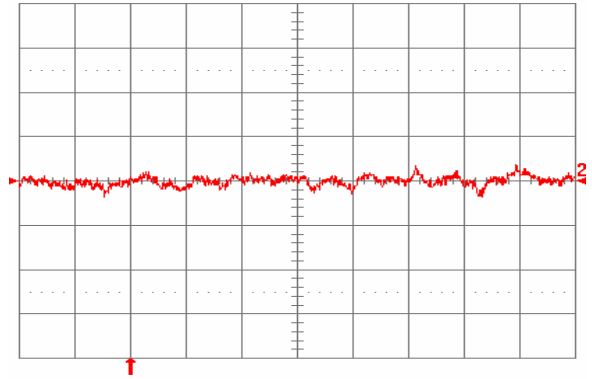

**Fig. 2.0V.14:** Test Setup for measuring input reflected ripple currents,  $i_c$  and  $i_s$ .
**Fig. 2.0V.1:** Available load current vs. ambient air temperature and airflow rates for SQ48T15020 converter with D height pins mounted vertically with  $V_{in} = 48\text{ V}$ , air flowing from pin 3 to pin 1, and maximum FET temperature  $\leq 120\text{ }^\circ\text{C}$ .
**Fig. 2.0V.2:** Available load current vs. ambient air temperature and airflow rates for SQ48T15020 converter with D height pins mounted horizontally with  $V_{in} = 48\text{ V}$ , air flowing from pin 3 to pin 1, and maximum FET temperature  $\leq 120\text{ }^\circ\text{C}$ .
**Fig. 2.0V.3:** Available load current vs. ambient air temperature and airflow rates for SQ48S15020 converter mounted vertically with  $V_{in} = 48\text{ V}$ , air flowing from pin 3 to pin 1, and maximum FET temperature  $\leq 120\text{ }^{\circ}\text{C}$ .
**Fig. 2.0V.4:** Available load current vs. ambient air temperature and airflow rates for SQ48S15020 converter mounted horizontally with  $V_{in} = 48\text{ V}$ , air flowing from pin 3 to pin 1, and maximum FET temperature  $\leq 120\text{ }^{\circ}\text{C}$ .
**Fig. 2.0V.5:** Efficiency vs. load current and input voltage for SQ48T/S15020 converter mounted vertically with air flowing from pin 3 to pin 1 at a rate of 300 LFM (1.5 m/s) and  $T_a = 25\text{ }^{\circ}\text{C}$ .
**Fig. 2.0V.6:** Efficiency vs. load current and ambient temperature for SQ48T/S15020 converter mounted vertically with  $V_{in} = 48\text{ V}$  and air flowing from pin 3 to pin 1 at a rate of 200 LFM (1.0 m/s).
**Fig. 2.0V.7:** Power dissipation vs. load current and input voltage for SQ48T/S15020 converter mounted vertically with air flowing from pin 3 to pin 1 at a rate of 300 LFM (1.5 m/s) and  $T_a = 25\text{ }^\circ\text{C}$ .
**Fig. 2.0V.8:** Power dissipation vs. load current and ambient temperature for SQ48T/S15020 converter mounted vertically with  $V_{in} = 48\text{ V}$  and air flowing from pin 3 to pin 1 at a rate of 200 LFM (1.0 m/s).
**Fig. 2.0V.9:** Turn-on transient at full rated load current (resistive) with no output capacitor at  $V_{in} = 48\text{ V}$ , triggered via ON/OFF pin. Top trace: ON/OFF signal (5 V/div.). Bottom trace: output voltage (1 V/div.). Time scale: 2 ms/div.
**Fig. 2.0V.10:** Turn-on transient at full rated load current (resistive) plus 10,000  $\mu\text{F}$  at  $V_{in} = 48\text{ V}$ , triggered via ON/OFF pin. Top trace: ON/OFF signal (5 V/div.). Bottom trace: output voltage (1 V/div.). Time scale: 2 ms/div.
**Fig. 2.0V.11:** Output voltage response to load current step-change (3.75 A – 7.5 A – 3.75 A) at  $V_{in} = 48$  V. Top trace: output voltage (100 mV/div.). Bottom trace: load current (5 A/div.). Current slew rate: 0.1 A/ $\mu$ s.  $C_o = 1$   $\mu$ F ceramic. Time scale: 0.2 ms/div.
**Fig. 2.0V.12:** Output voltage response to load current step-change (3.75 A – 7.5 A – 3.75 A) at  $V_{in} = 48$  V. Top trace: output voltage (100 mV/div.). Bottom trace: load current (5 A/div.). Current slew rate: 5 A/ $\mu$ s.  $C_o = 450$   $\mu$ F tantalum + 1  $\mu$ F ceramic. Time scale: 0.2 ms/div.
**Fig. 2.0V.13:** Output voltage ripple (20 mV/div.) at full rated load current into a resistive load with  $C_o = 10$   $\mu$ F tantalum + 1  $\mu$ F ceramic and  $V_{in} = 48$  V. Time scale: 1  $\mu$ s/div.
**Fig. 2.0V.15:** Input reflected ripple current,  $i_c$  (100 mA/div.), measured at input terminals at full rated load current and  $V_{in} = 48$  V. Refer to Fig. 2.0V.14 for test setup. Time scale: 1  $\mu$ s/div.
**Fig. 2.0V.16:** Input reflected ripple current,  $i_s$  (10 mA/div.), measured through 10  $\mu$ H at the source at full rated load current and  $V_{in} = 48$  V. Refer to Fig. 2.0V.14 for test setup. Time scale: 1  $\mu$ s/div.
**Fig. 2.0V.17:** Output voltage vs. load current showing current limit point and converter shutdown point. Input voltage has almost no effect on current limit characteristic.
**Fig. 2.0V.18:** Load current (top trace, 20 A/div., 20 ms/div.) into a 10  $m\Omega$  short circuit during restart, at  $V_{in} = 48$  V. Bottom trace (20 A/div., 1 ms/div.) is an expansion of the on-time portion of the top trace.